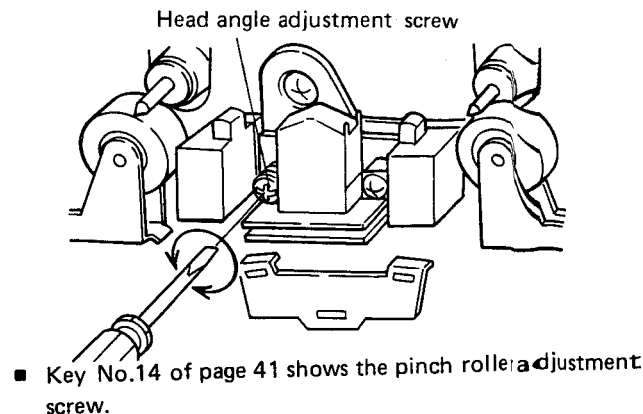

Fig. 8-2 Head angle adjustment
3. Set CT-F750 to the FWD (forward) position. Play back the 10kHz signal on the STD-341A test tape and adjust the head angle (azimuth) adjustment screw (Figure 8-2), so that maximum output is obtained for both channels.